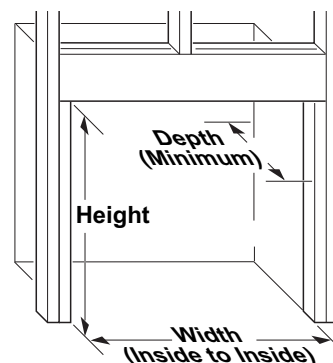
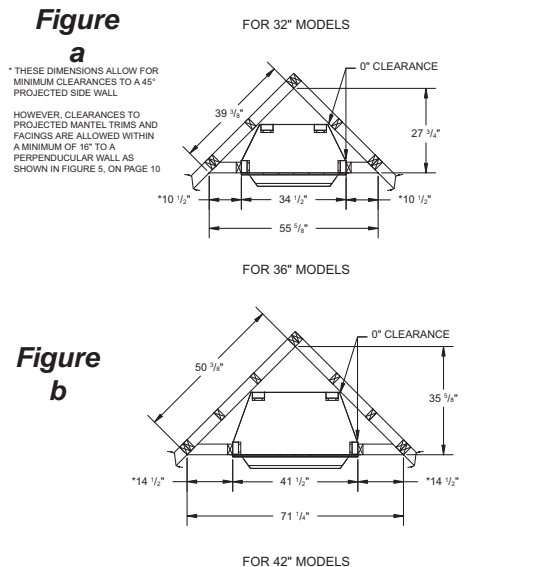

Figure 13 - Rough Opening for Installing in Wall
Figure 14 - Rough Opening for Installing in Corner
- Frame in rough opening. Use dimensions shown in Figure 13 for the rough opening. If installing in a corner, use dimensions shown in Figure 14, Page 13, Figure 13, for the rough opening.